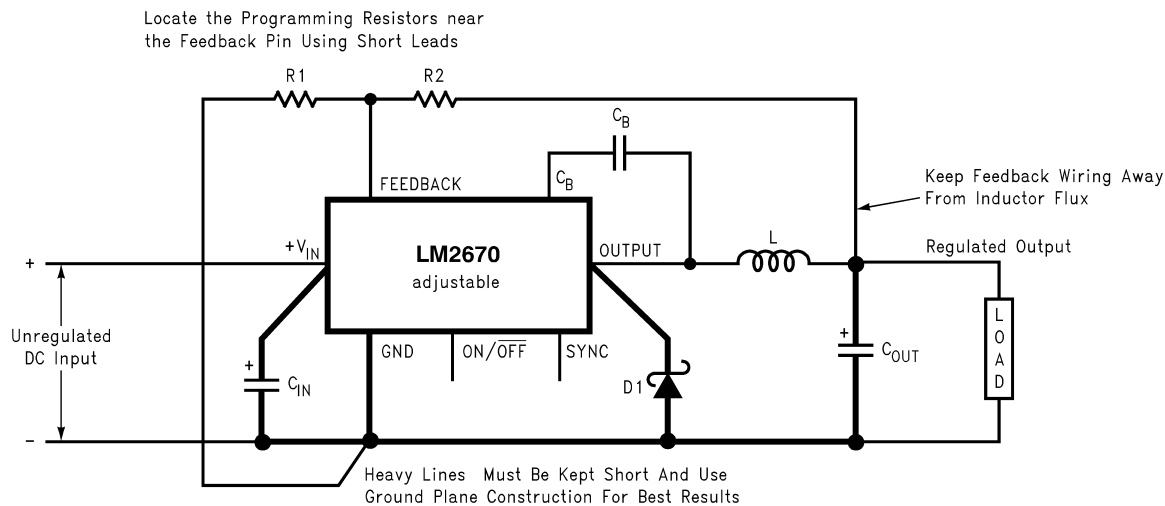

FIGURE 2. Basic circuit for adjustable output voltage applications
**Step 2:** Select an LM2670S-ADJ. To set the output voltage to 14.9V two resistors need to be chosen (R1 and R2 in Figure 2). For the adjustable device the output voltage is set by the following relationship: